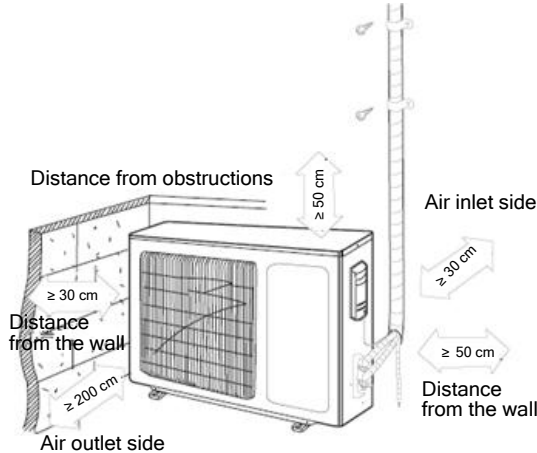

Figure 5-2 Space requirements for installation
- (2) The distance between the main unit and the walls or other obstructions must not be too small, and the space for installing the main units must meet the requirements provided in Figure 5-2.